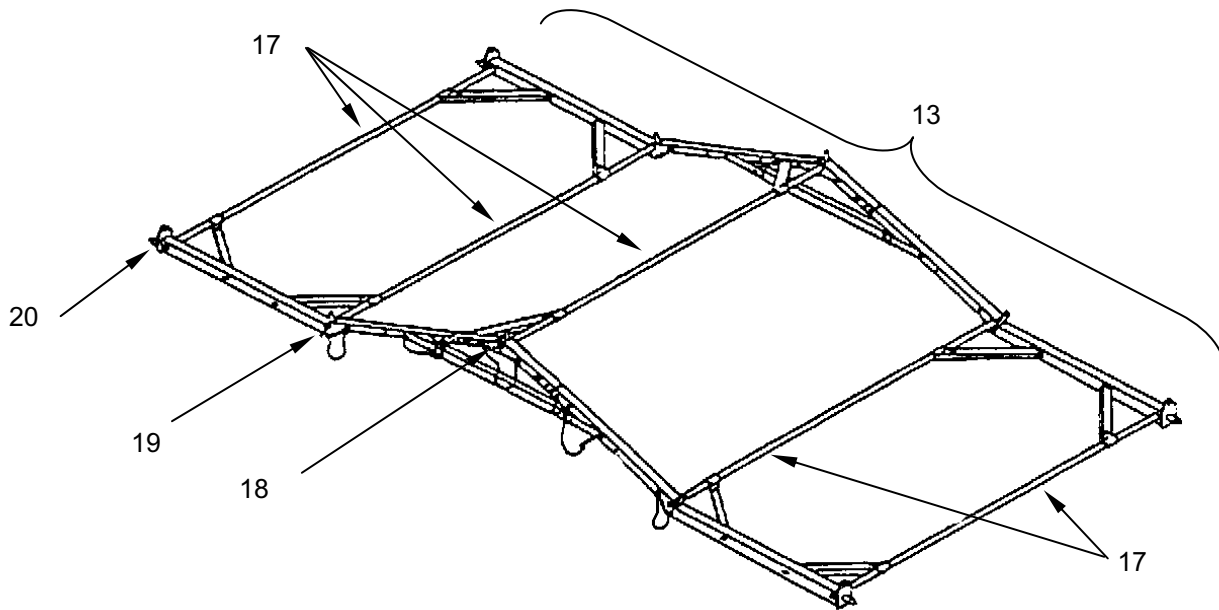

Figure 6. Purlin Assembly.
1. Identify five purlins (**Figure 6, Item 17**) for installation at ridge (**Figure 6, Item 18**), eaves (**Figure 6, Item 19**), and bases (**Figure 6, Item 20**).
2. Starting at the end arch, hold two arch assemblies (**Figure 6, Item 13**) upright and parallel, 8 feet apart, in kneeling position.